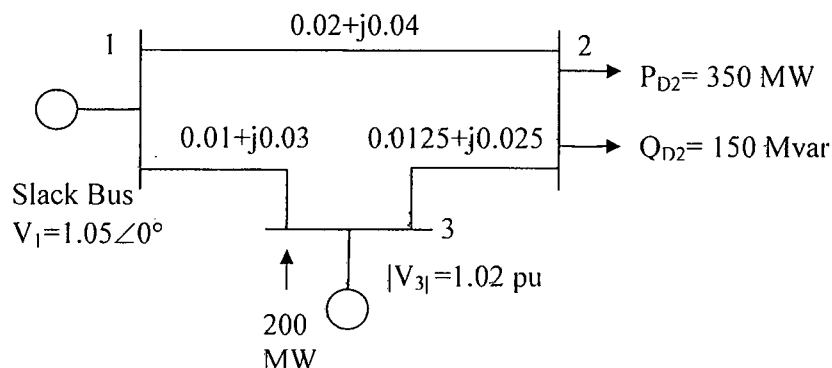

Fig. 11a
- 11a. Fig. 11a shows the one-line diagram of a simple three-bus power system with generators at buses 1 and 3. The line impedances are marked in per unit on a 100 MVA base. Find out the bus voltages after one iteration using Fast-decoupled power flow method. (16)